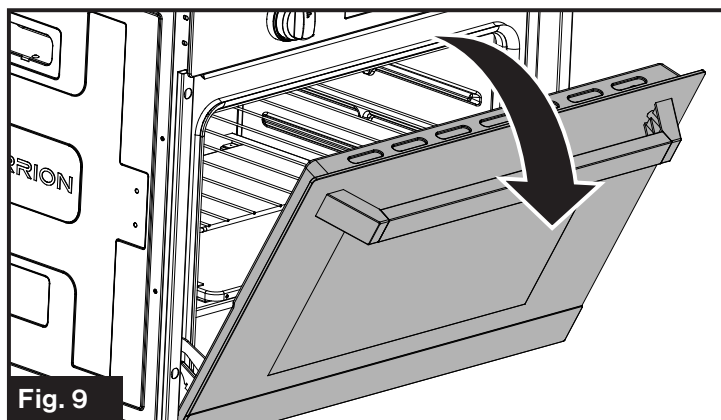

Fig. 9
2. Open the door all the way. (Fig. 9)